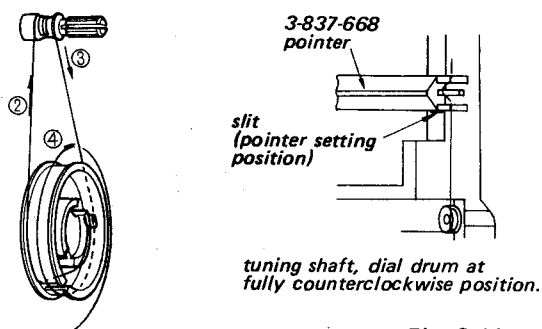

Fig. 2-11.
Note: Pass through the dial cord at step ④ between the two cords of steps ② and ③ as shown in Fig. 2-11.
2. Set the pointer to the slit as shown in Fig. 2-11.